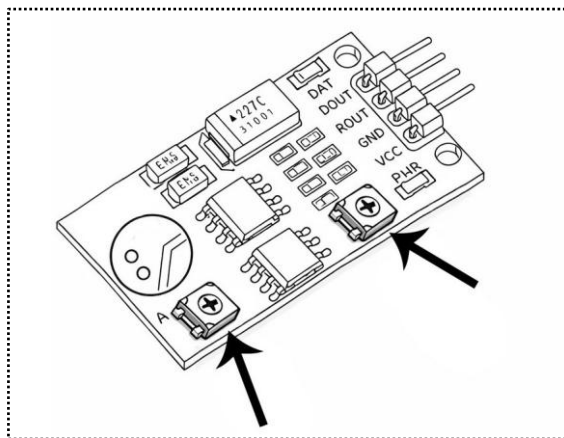

Figure 13.4: Shock sensor – location of the adjustment potentiometers
- **Adjustment overview:** The shock sensor detects vibrations and impacts associated with throwing darts. The sensor has two silver-colored potentiometers (trim screws) for adjusting detection sensitivity (see Figure 13.4).